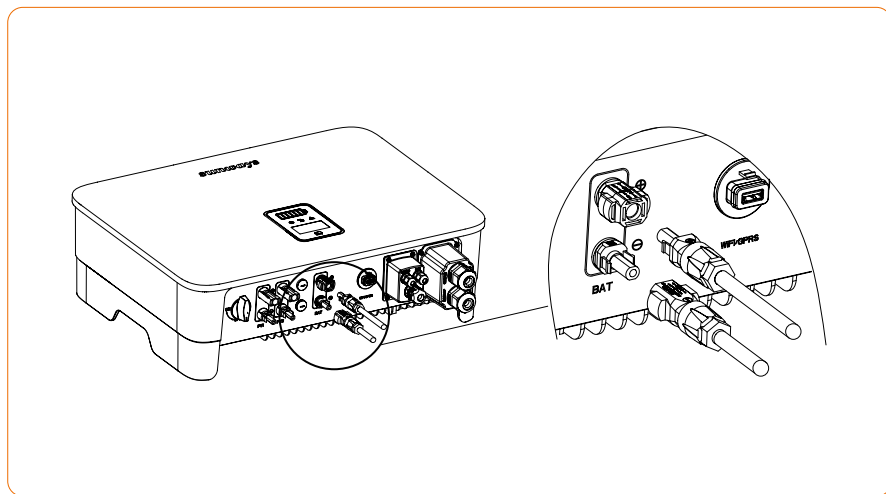

Figure 4-26
② Use a multimeter to measure the voltage of the battery pack and make sure the voltage is within the inverter limitation and the polarity is correct.
⑥ Insert the positive and negative connector into the inverter battery terminals respectively, and a “click” sound represents the assembly in place, as shown in Figure 4-26: